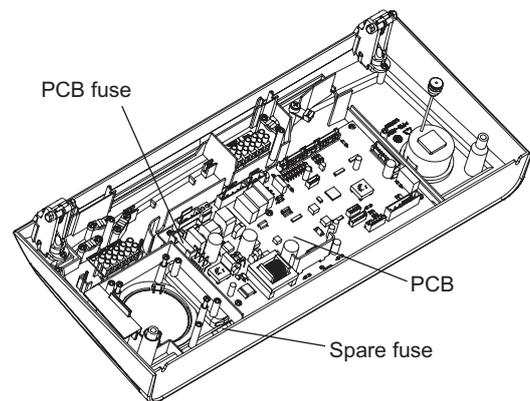

Fig. 7.2
7.11 FUSE - Fig. 7.2
Note: A spare fuse is supplied, as shown in Fig. 7.2.
7.12 PCB - Fig. 7.2